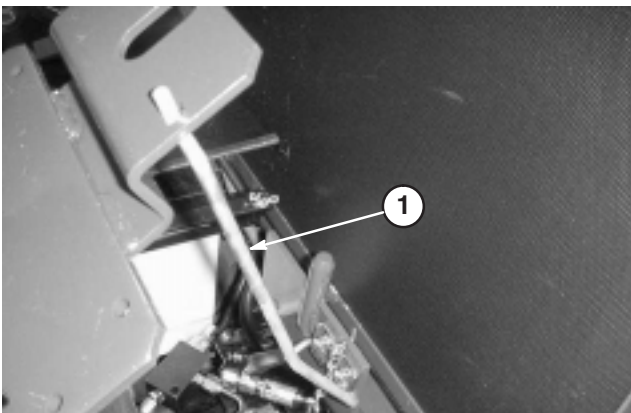

Figure 7
4. Hold seat up with seat support rod (Fig. 7).
6. Hold seat up with seat support rod (Fig. 7).